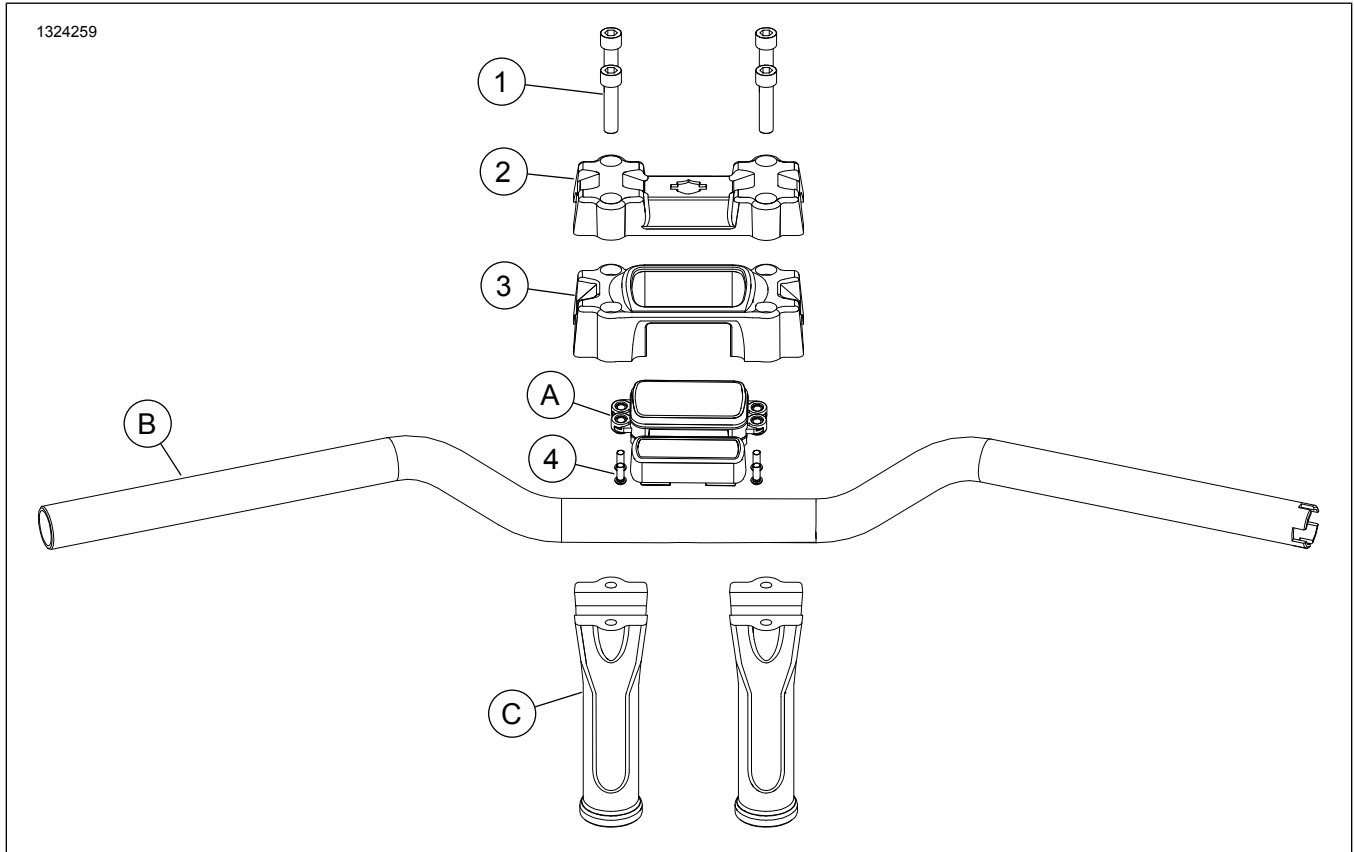

Figure 1. Service Parts List: Clamp Kits
1. See Figure 1. Remove and discard OEM screws (1) and OEM upper clamp from risers (C).
2. For gauge clamp (3) digital instrument module installation, see Installation Module.
- a. Center handlebar (B) on risers (C). Verify the knurled areas on outboard side of each riser are equal.
- b. Adjust handlebar (B) to desired position.
- d. Install front socket head screws (1). Tighten.
See Figure 1. Install instrument module.